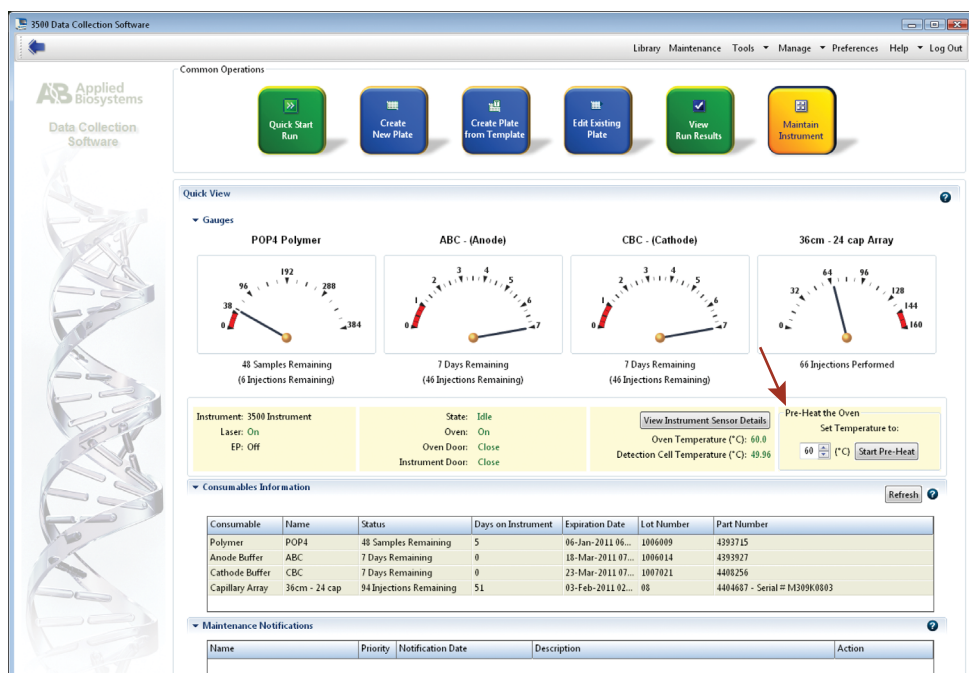

Figure 2. The Dashboard.
1. Open the 3500 Data Collection Software. The Dashboard screen will launch (Figure 2). To ensure that you are viewing the most up-to-date information, press the Refresh button. Ensure that the Consumables Information and Maintenance Notifications are acceptable.